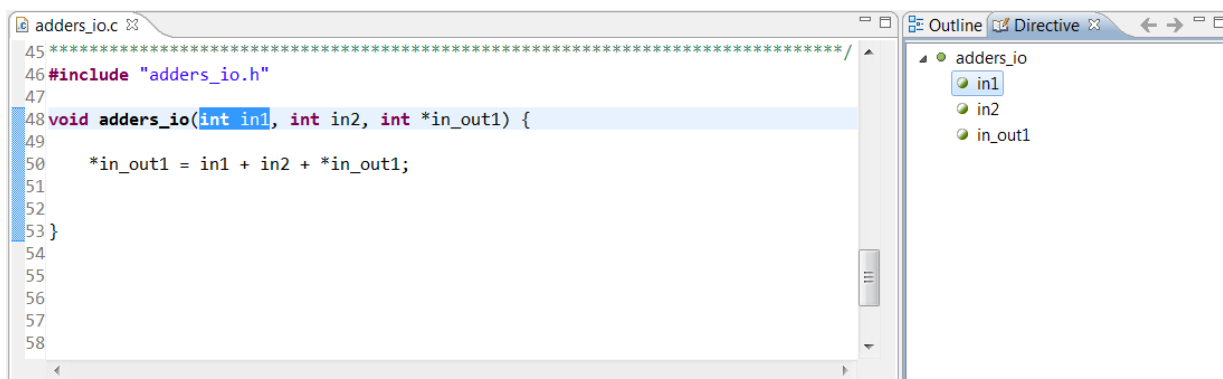

Figure 4-12: Adding Port I/O Protocols
2. Activate the **Directives** tab and select input **in1**, as shown in Figure 4-12.